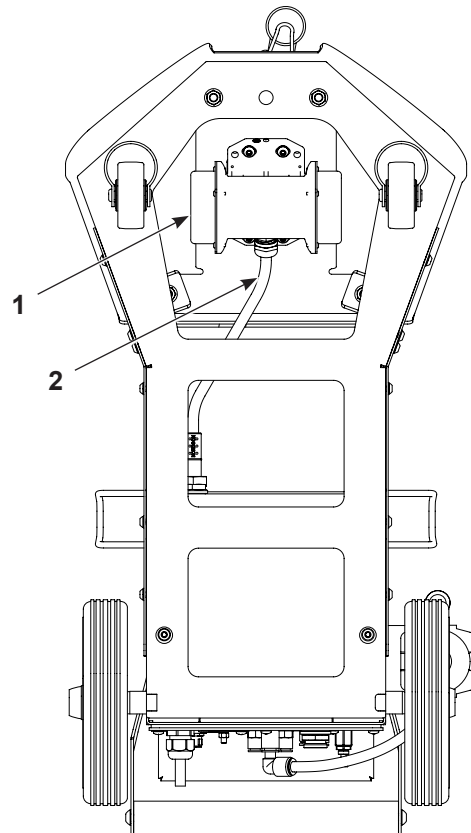

Figure 7-5 Replacing Vibrator Motor
See Figure 7-5. When replacing the vibrator motor (1), make sure to order the correct motor for system voltage. Check the label on the vibrator motor. Replacement motors include the power cable (2).